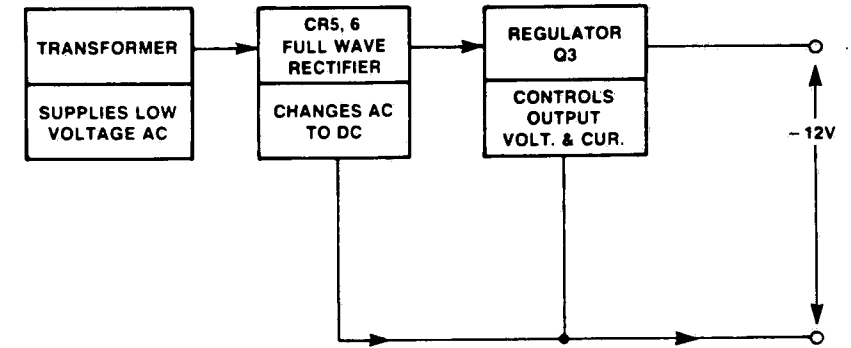

Figure 3-11. PRINTCON -12 VOLT POWER SUPPLY.
-12 VDC at 0.1 amp, voltage regulated (Figure 3-11).
voltage to integrated circuit regulator Q3, through fuse F3, which regulates the output voltage. (Figure 3-11.)